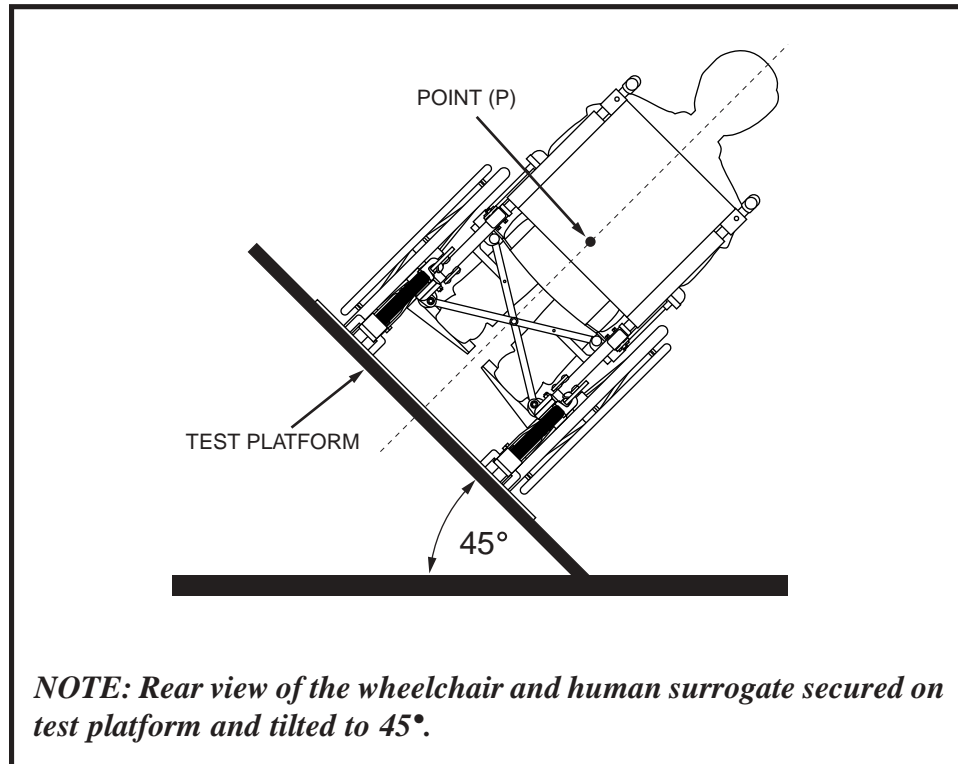

Figure 10. Lateral Stability Displacement Illustration
- The test for Lateral Stability Displacement for Point (P) is shown in figure 10. The average test result for Point (P) is: 13.9 mm.